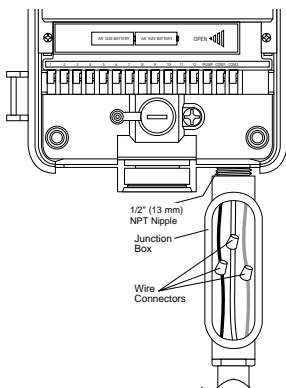

FIGURE 6: AC Wiring Using Junction Box
- Connect the source wires to the wires extending from the controller. Be sure to connect the source ground wire (often green wire or bare copper conductor) to the green wire of the controller. The green wire must be connected! Likewise, connect the other wires [See Figure 6].